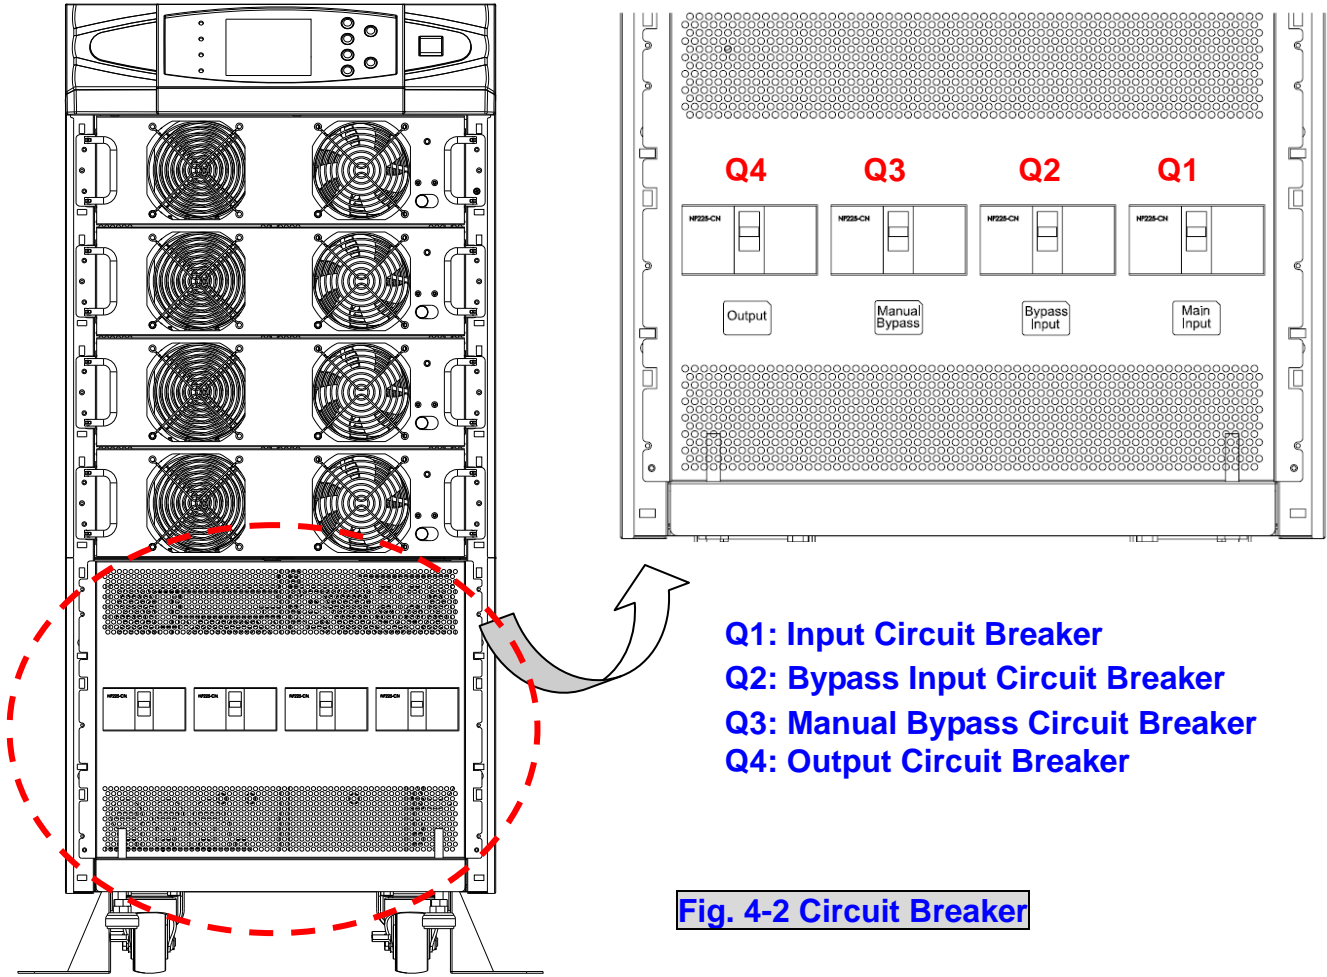

Fig. 4-2 Circuit Breaker
5. Confirm if the input and bypass input circuit breakers (Q1 and Q2) are cut off (Refer to Fig.4-2).
1. Confirm if the input and bypass input breaker (Q1 and Q2) are cut off (Refer to Fig. 4-2).